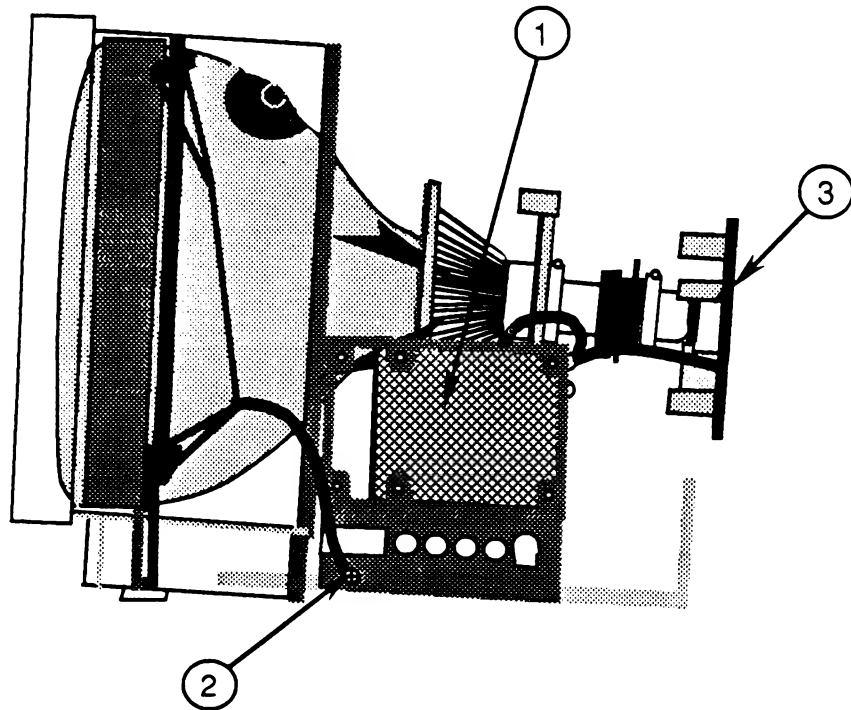

FIGURE 15
4. Locate the power supply board (Figure 15, #1).
9. Remove the screws (Figure 15, #2) that secure the green CRT ground straps to each side of the metal chassis frame. (There is one screw on each side.)
10. Carefully pull the CRT board (Figure 15, #3) off the CRT neck, and cut any cable ties binding the CRT board wires together.